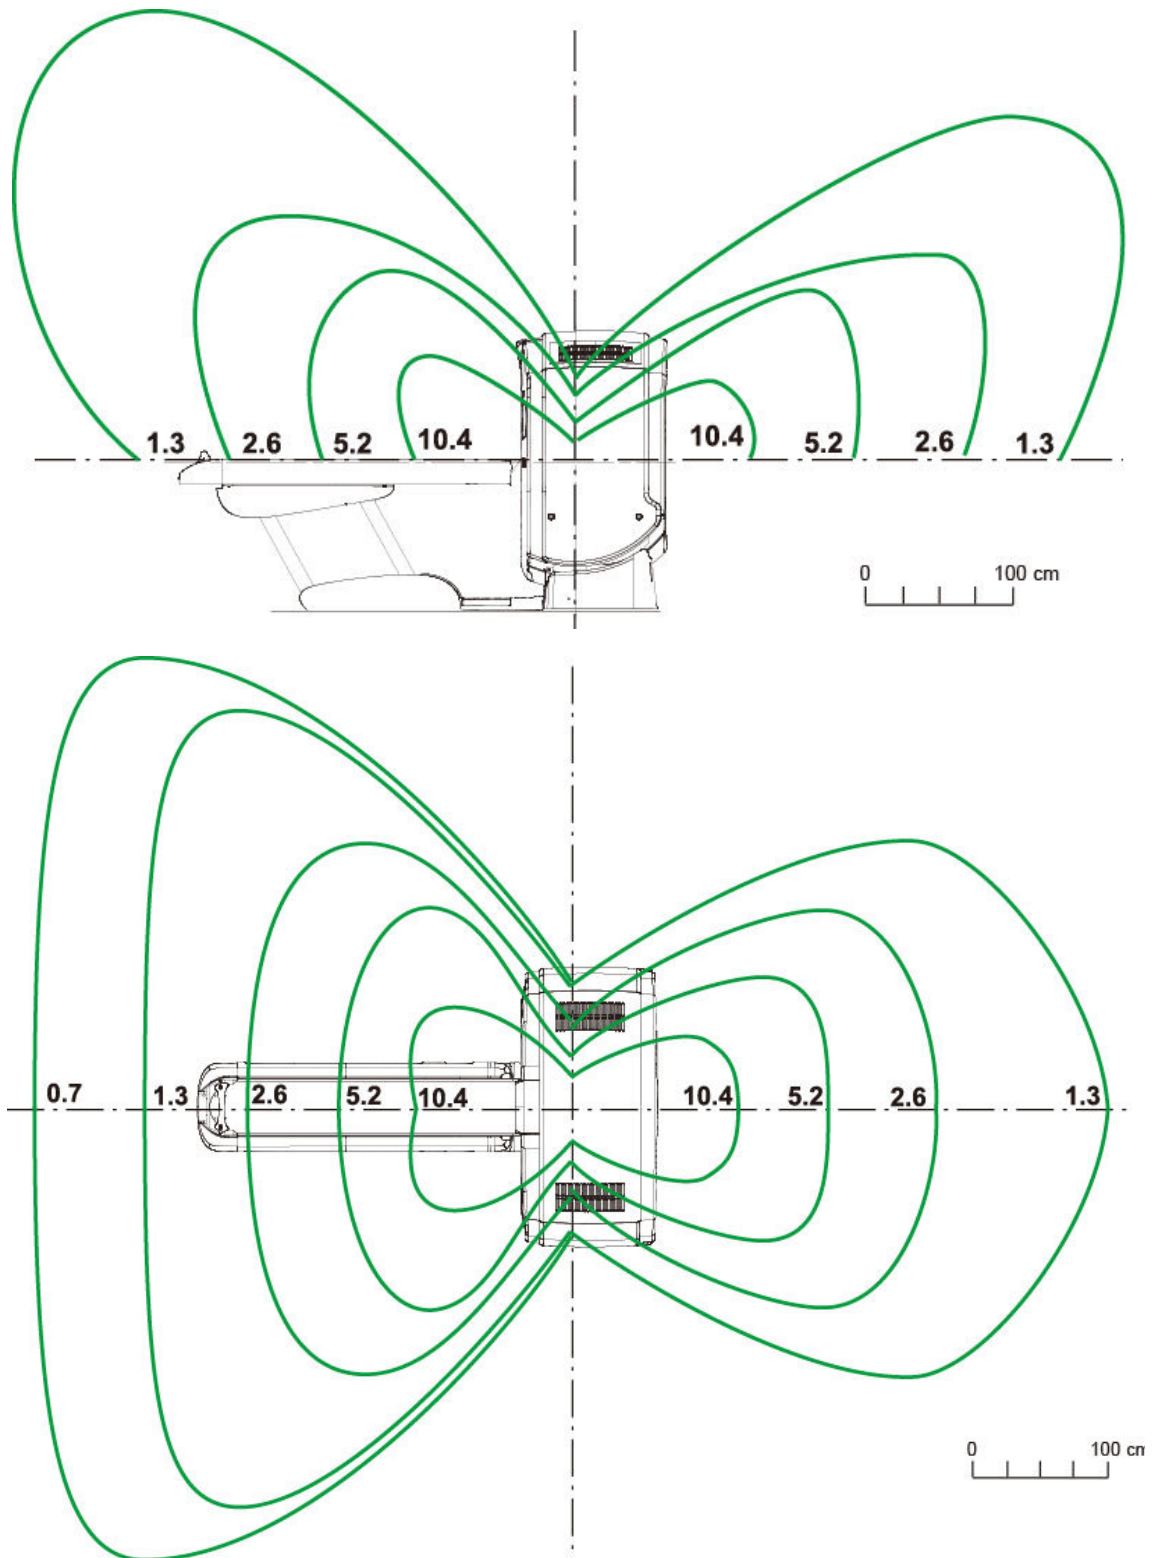

Figure 10-1 Typical Scatter Survey (Large Filter)
- Scatter radiation levels within the scanning room (see Figure 10-1).
*Example* (from Figure 10-1): The exposure level for a 120 kV, 800 mA, 1 sec. scan at 1270 mm (50 in.) away from the scan plane is:  $10.4 \mu\text{Gy} \times 0.71 \times 800/100 = 59.2 \mu\text{Gy}$ .